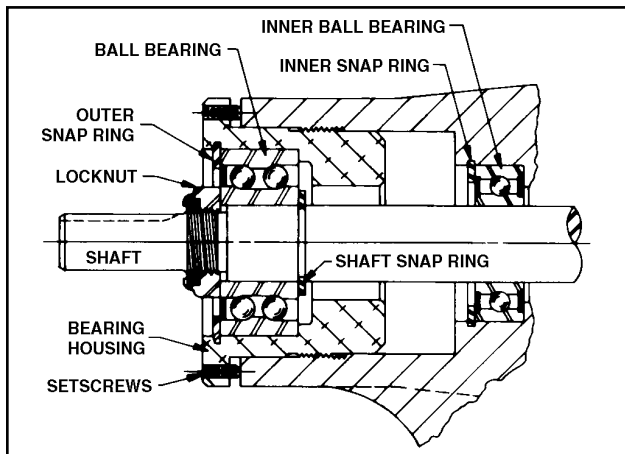
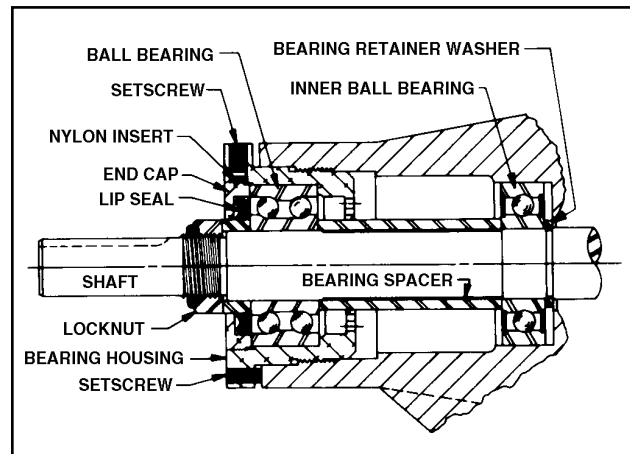

Figure 26 - Thrust-Bearing assembly (GG, HJ, HL)
Figure 27 - Thrust-Bearing assembly (AS, AK, AL)
5. Insert a brass bar or piece of hardwood in the port opening and between rotor teeth to keep shaft from turning. Turn the locknut counterclockwise and remove locknut. See Figure 26 or 27.
6. Loosen two setscrews in face of bearing housing and turn thrust bearing assembly counterclockwise and remove from casing. See Figure 26 or 27.
7. **GG, HJ, HL:** Remove snap ring from shaft. See Figure 26. **AS, AK, AL:** Remove bearing spacer from shaft. See Figure 27.
10. **AS, AK, AL:** Remove bearing retainer washer. The washer may have stayed with rotor and shaft when removed or is against ball bearing. See Figure 27.
**GG, HJ, HL:** Remove outer snap ring from bearing housing and remove ball bearing. See Figure 26.
**AS, AK, AL:** Loosen two set screws in flange outside diameter. Rotate end cap and lip seal counterclockwise and remove. Remove ball bearing. See Figure 27.
12. **GG, HJ, HL:** Install shaft snap ring in groove in the shaft. See Figure 26.
**AS, AK, AL:** Install bearing spacer over shaft and against single row ball bearing. See Figure 27.
**13. Pack lubrication chamber between** inner ball bearing and double-row ball bearing in the thrust-bearing assembly approximately one-half full of multipurpose grease, NLGI #2. The thrust-bearing assembly will take the remaining space. See Figure 26 and 27.
**GG, HJ, HL:** Install ball bearing into bearing housing with shield side toward coupling end of shaft. See Figure 26. Install snap ring into bearing housing to retain ball bearing. This snap ring has a tapered edge to fit tapered groove in bearing housing. The tapered edge is located away from ball bearing.
**AS, AK, AL:** Install ball bearing into bearing housing. Install lip seal in bearing housing end cap. The lip should face towards end of shaft. Put bearing spacer collar in lip seal and install in bearing housing and tighten setscrews securely. See Figure 27.
See Figures 26 and 27.